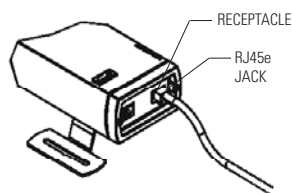

FIG.15
1. Simply connect data cable (shielded cats recommended) into DMX connector RJ45e jack. (Fig.15)